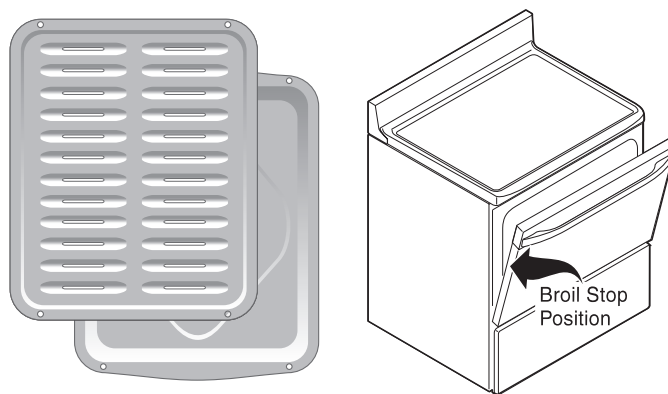

Figure 14: Broiling pan and insert; Broil stop position
6. Place the broiler pan and insert on the oven rack. Broil with oven door open to the broil stop position (Figure 14).